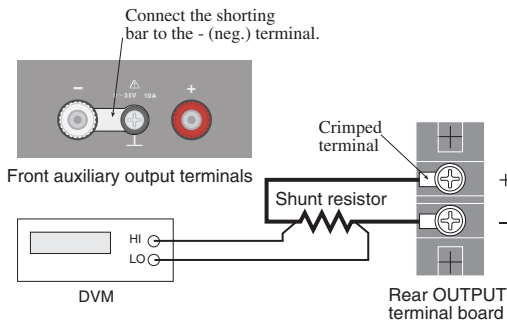

Fig.6-4 Connection for current system adjustment
4. Connect a shunt resistor and DVM as shown in Fig.6-4.